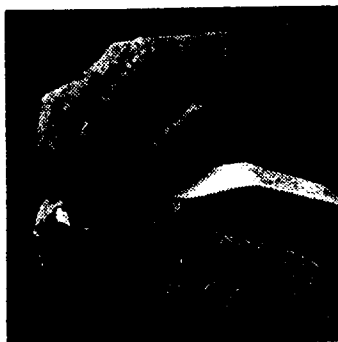

Fig. G.2
- b. Included with this device are a RAF with an elastic Velcro® strap and two foam liners with adhesive on one side. The paper backing should be removed and the adhesive side of the foam placed on the underside of the RAF to provide a padded surface over the nonunion site and to prevent movement of the RAF on the skin surface (an extra foam liner is provided to allow replacement as needed [Fig. G.2]).